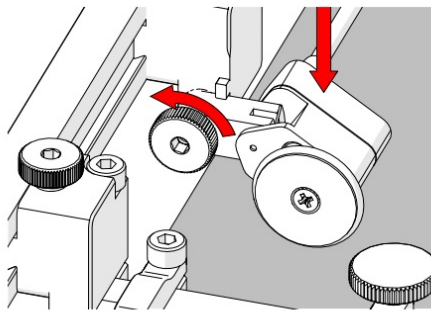

Fig. 5 - Lower encoder wheel
1. Loosen the encoder's thumb screw and lower the encoder wheel's pivot joint towards the scan surface (Fig. 5).